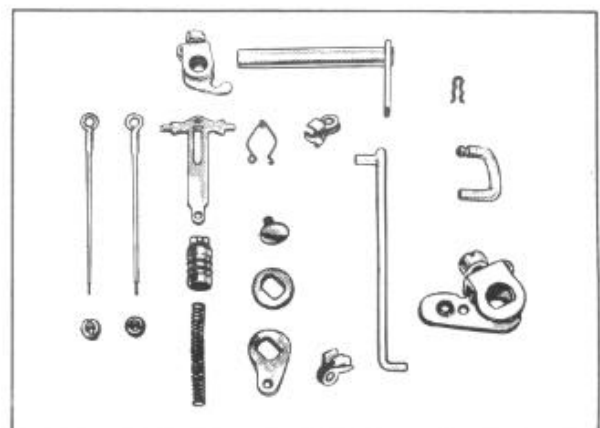

FIGURE 62
3. Group all parts controlling the high speed operation, Figure 62.